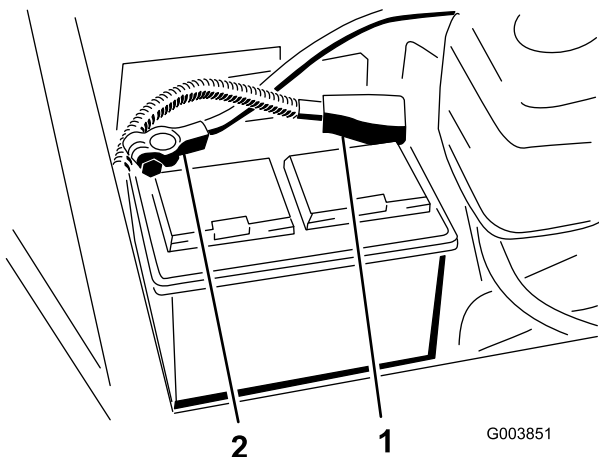

Figure 2
2. Ensure that the battery is securely fastened in place and check the battery charge with a hydrometer. If the battery needs charging, ensure that the positive (+) cable is disconnected from the battery before connecting the charger (Figure 2).